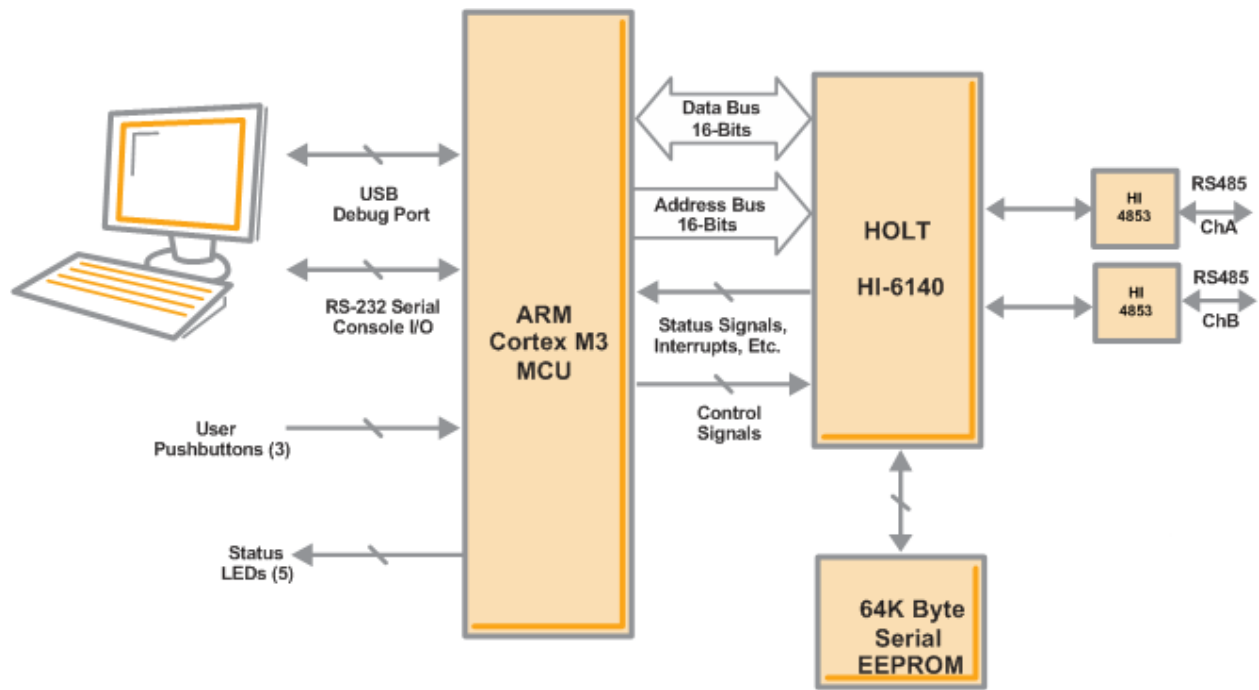

Figure 2 - Evaluation Board Block Diagram
As shown in figure 2, the upper board contains a HI-6140 and two RS485 transceivers. Data is passed to the RS485 transceivers for transmission over 120 ohm screen twisted pairs at 10Mbps. For testing, a Bus Controller (BC) is required. A HOLT HI-6140 BC evaluation card (not included) can be used for this purpose.